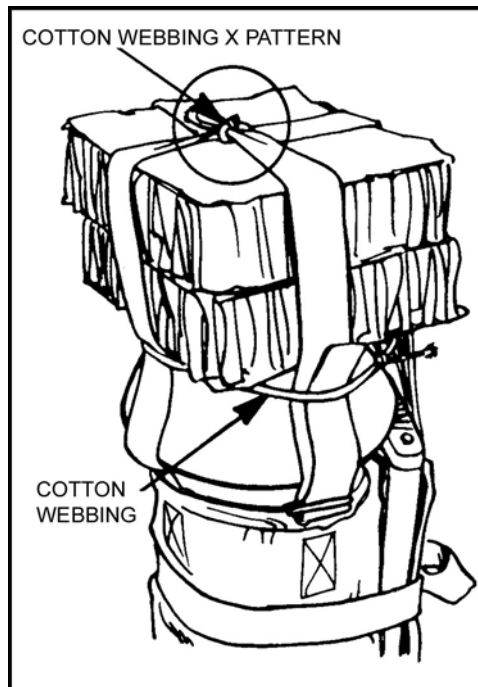

Figure 12-36.
(4) Position the DMJP on the aft end shock absorber and retighten the launcher forward end securing straps using quick-release folds. All excess on the securing straps are folded back under the corresponding quick-fit adapter. Retighten one turn of 1/4-inch, 80-pound test cotton webbing in an X pattern around the launcher forward end securing straps, and tie securely with a surgeon's knot and locking knot (Figure 12-36, page 12-36).
(5) Tie one turn of 1/4-inch, 80-pound test cotton webbing around the launcher forward end, securing straps below the 9-inch square honeycomb. Tie in a surgeon's knot and locking knot to prevent the honeycomb from shifting.
(6) Position the DMJP on the honeycomb and tighten the launcher aft end bridle securing strap. Secure its running end by folding it back under the corresponding quick-fit adapter.
(7) Tighten the three horizontal securing straps as evenly as possible around the weapon(s). Incorporate a quick-release fold and secure with a retainer band or two turns of masking tape.